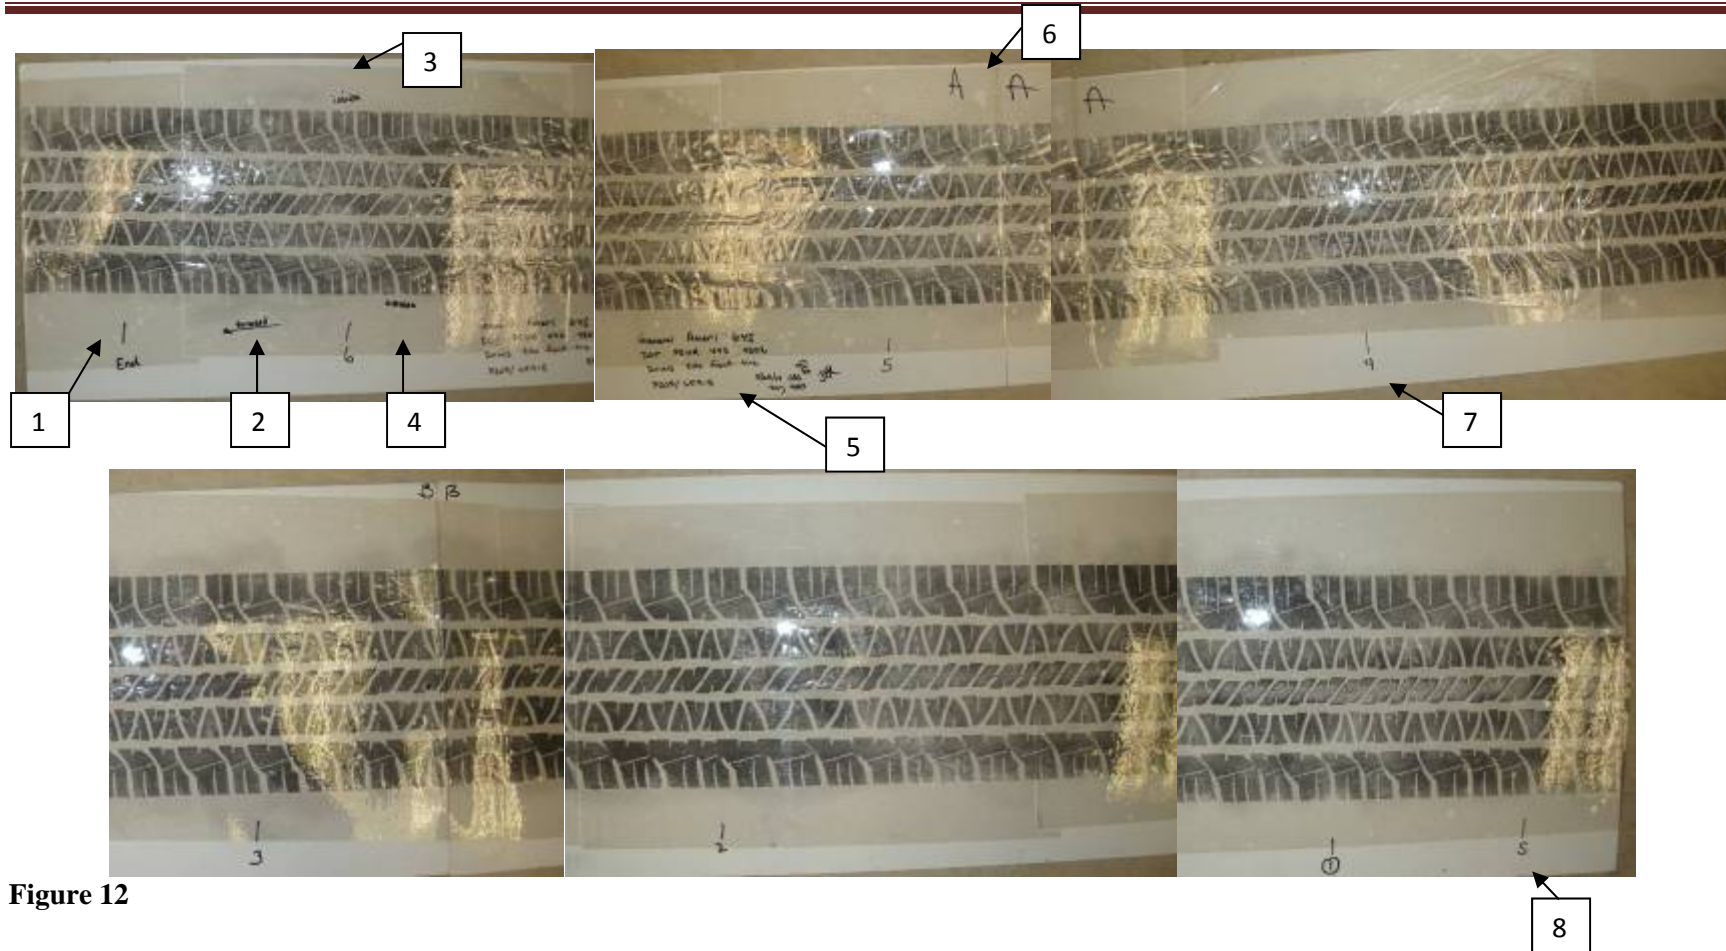

Figure 12
- Make sure to mark the board with the following information listed in Figure 12.
See Example Pictured below (Figure 12).